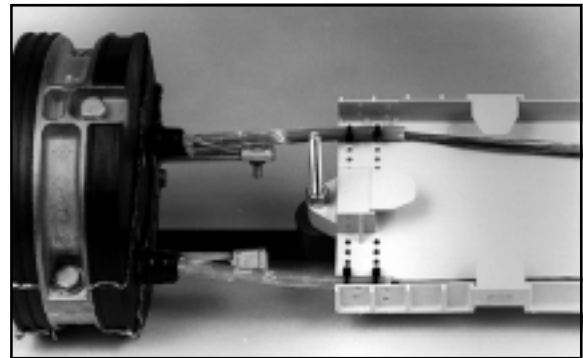

FIGURE 21 - CENTRAL TUBE SECURED IN TRANSITION COMPARTMENT (6.5" X 22" DLX SHOWN)
- 11.03** Use the tie wraps provided to secure the two (2) main cables to the outside tie down locations of the transition compartment. (Figure 21)